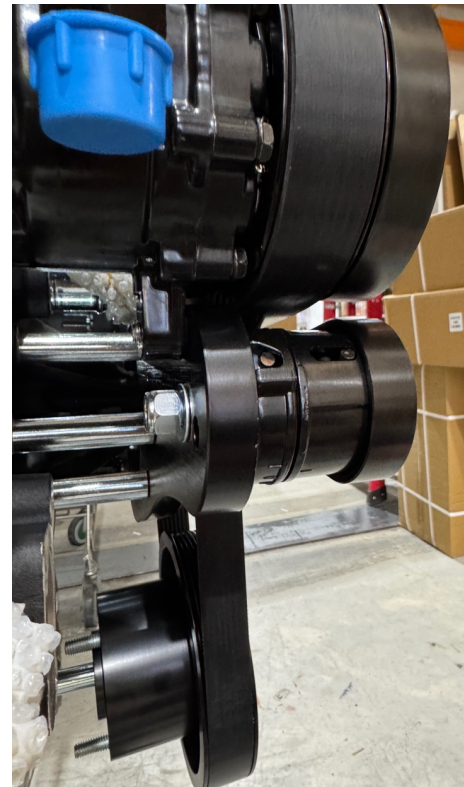

*Figure 5. Air conditioning compressor installation.*
8. Install the air conditioning compressor, starting with the top bolt and then the bottom bolt before tightening to specification. Refer to Figure 5.